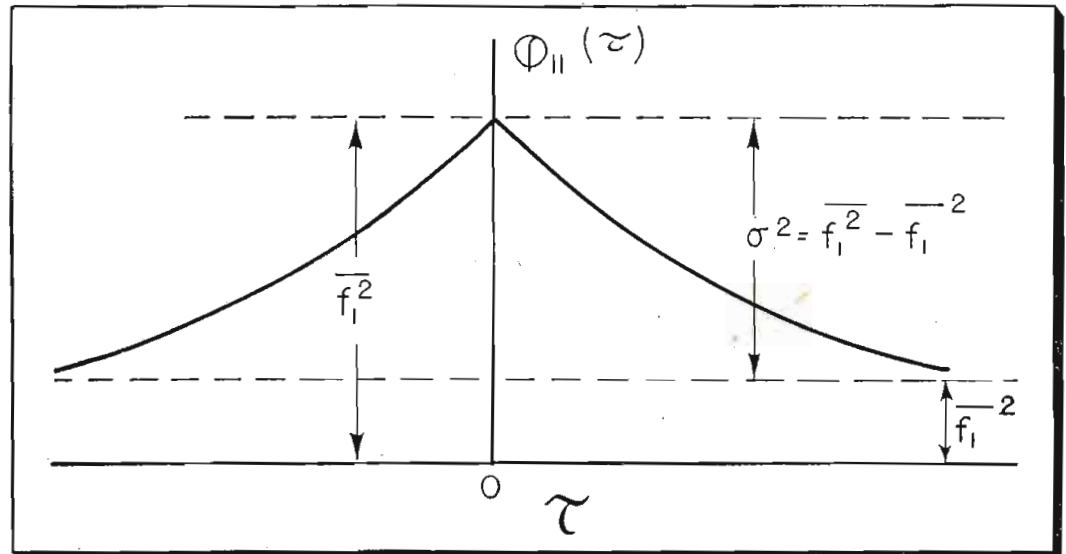

Fig. 1: Autocorrelation function; $\phi_{11}(\tau)$ is time avg. of original function times itself advanced τ
That is, $\phi_{11}(\tau)$ is the time average of the product of the original function times itself advanced in time by τ . A typical autocorrelation function is shown in Fig. 1. Several items bear special mention. If we imagine that the random function $f_1(t)$ represents a voltage across a 1-ohm load, then $\phi_{11}(0)$ is in effect the average power of $f_1(t)$. For large τ , the autocorrelation function approaches \bar{f}_1^2 which is the dc power of the random voltage. Although the correlation functions are of great importance in the design of linear filters and predictors⁸, no discussion of such use will be given here.
where the autocorrelation function of the noise, $\phi_{nn}(\tau)$, is of the form of Fig. 1. Since the signal and noise voltages of (4) are independent, the autocorrelation of the sum will be equal to the sum of the individual autocorrelation functions.